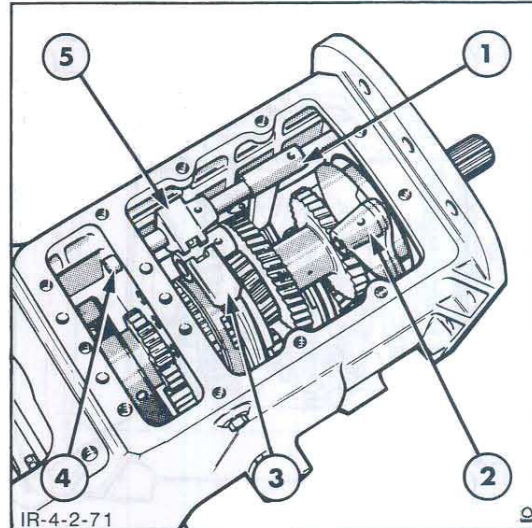

Figure 72
3. Install the 3rd/4th and H/L gearshift forks into the respective synchroniser assemblies, Figure 72.
5. Insert the 1st/2nd gearshift rail into the transmission case from the rear end of the transmission. Slide the rail through the 1st/2nd selector arm then install the 1st/2nd gearshift gate onto the rail. Continue sliding the rail until it is in approximately the neutral position, Figure 72.